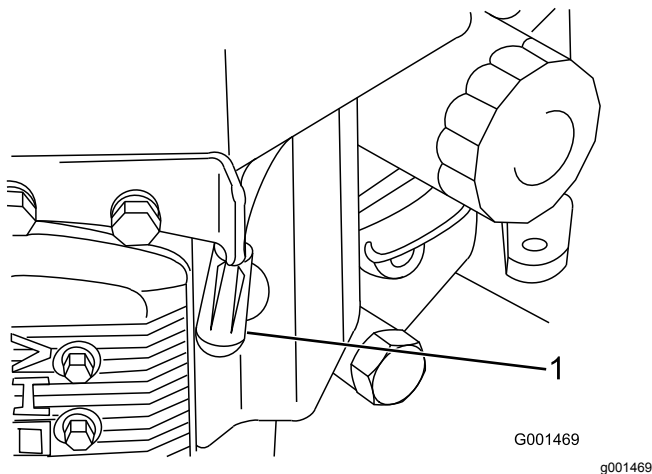

Figure 28
3. Disconnect the spark-plug wires (Figure 28).